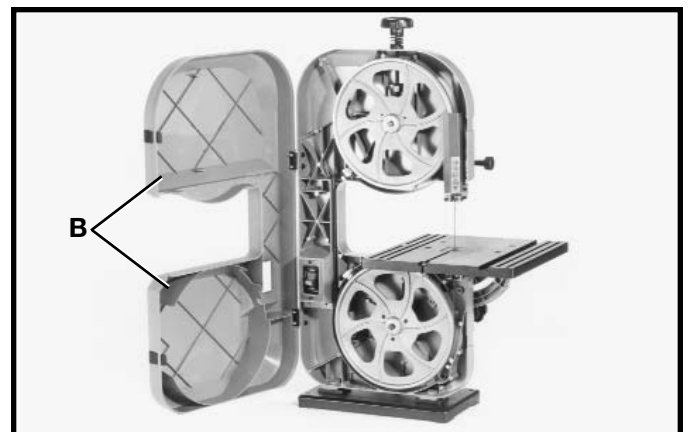

Fig. 18
2. Fig. 18, illustrates door (B) in open position.